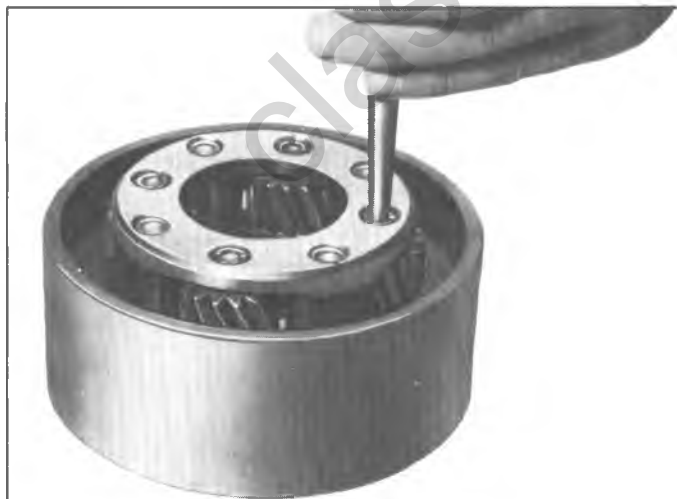

Fig. 107T-Removing Planet Pinion Pin
3. Using a tapered punch, drive or press pinion pins out of carrier (fig. 107T).